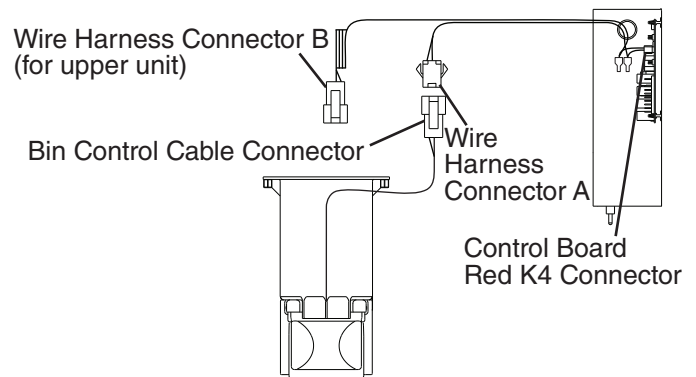

Fig. 4
- 3) Use the thumbscrew removed in the previous step and the thumbscrew included in the accessory bag to secure the bin control assembly to the bottom of the icemaker. See Fig. 4.